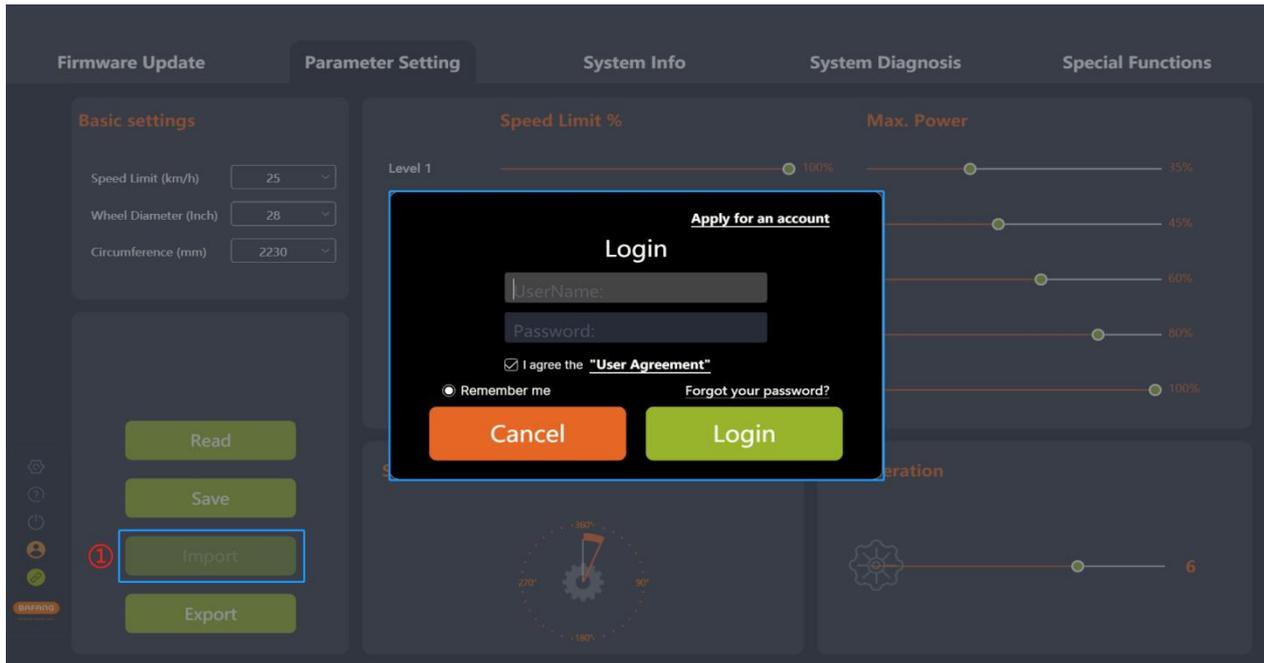

Fig. 5-7 Import
- (1) If you want to import the previously generated parameter configuration file (XML format) to the controller, click "Import". If you are not logged in, the "Login" interface will pop up, prompting you to log in (Fig.5-7).
- (2) Validation rules: The hardware version of the imported controller and the hardware version of the controller in the parameter configuration file shall be consistent. If not consistent, a prompt will be given and the importing will fail.
- (3) Select the local parameter configuration file.
- (4) Click "Open".